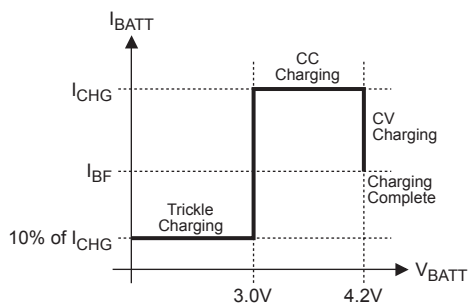
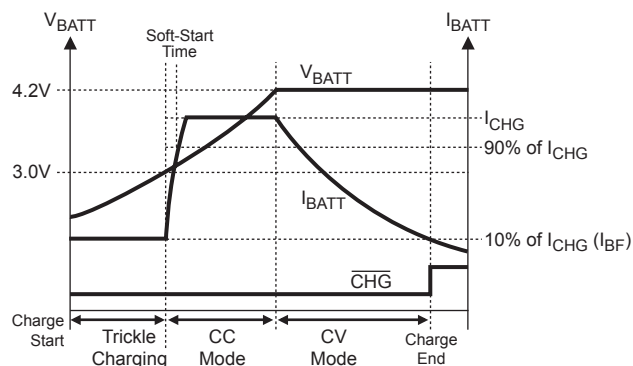

Figure 2—MP26023 Typical Charging Profile
Figure 3—MP26023 Typical Charging Procedure
Figure 2 below shows the typical charging profile for the MP26023. Figure 3 shows the typical charging procedure. For a fully depleted battery with a terminal voltage lower than 3.0V, the MP26023 will start with the trickle charge (preconditioning) at 10% of the programmed full charge current. After the battery voltage reaches 3.0V, the charger begins charging at the constant current of the programmed value (I_{CHG}). This is referred to as Constant Current (CC) mode. Once the battery voltage reaches 4.2V, the charger will operate in the constant voltage (CV) mode until the battery is fully charged. The charge current drops during CV mode, and the battery full indication is set when the charge current in the CV mode is reduced to the programmed full battery current (I_{BF}).